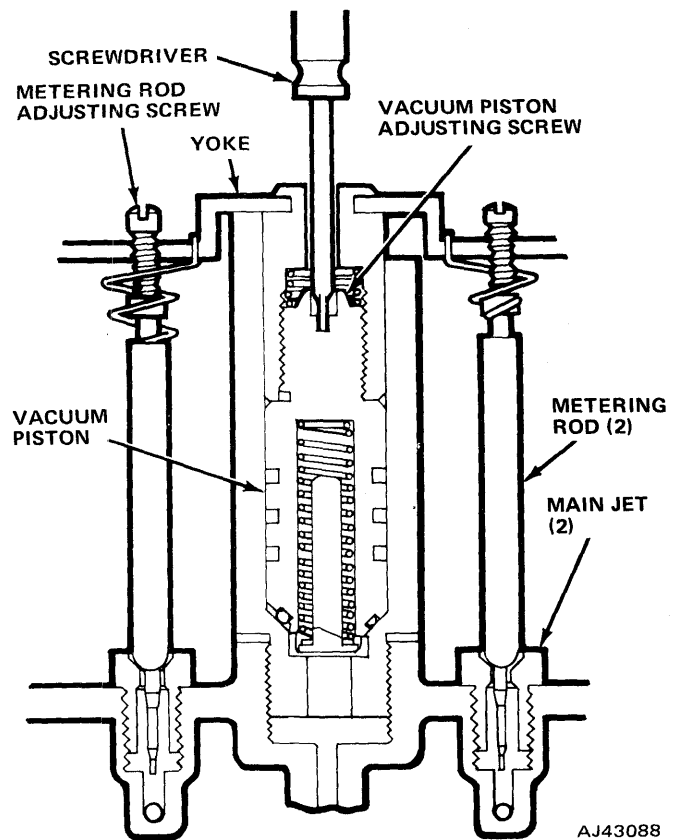
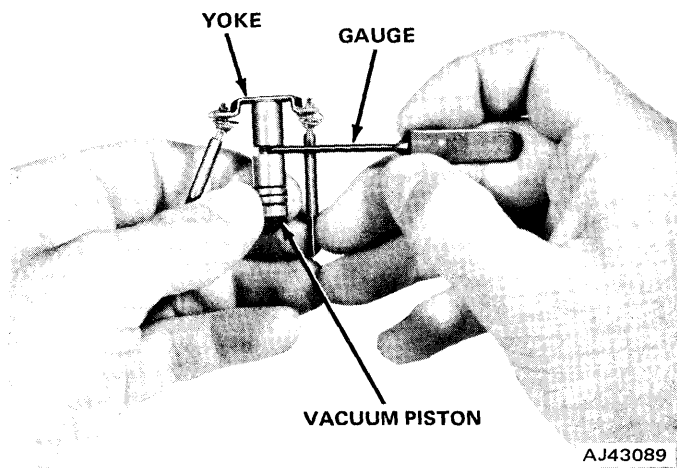

Fig. 4-131 Metering Rod Adjustment
Fig. 4-132 Metering Rod Vacuum Piston Adjustment
(1) Depress metering rod yoke. Using a small screwdriver, turn the vacuum piston adjusting screw counterclockwise until yoke is seated against the vacuum piston cylinder (fig. 4-131).
(2) Turn metering rod adjusting screws until large diameter of metering rods contact and seat in the main jets.
(3) Remove plastic yoke retainer.
(4) Remove metering rod and yoke assembly.
(5) Turn vacuum piston adjusting screw clockwise to move vacuum piston away from yoke to obtain clearance as listed in Specifications (fig. 4-132).
(6) Install metering rod and yoke assembly.
(7) Install plastic yoke retainer.